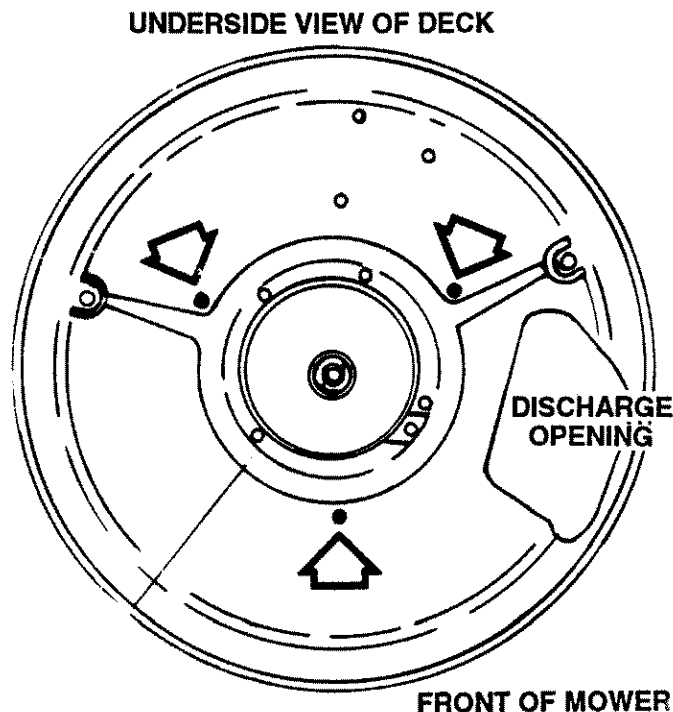

Fig. 1 - Screen Mounting Holes
- 1: Position the screen on underside and turn it until the three studs on the screen go through the matching holes in deck then secure with three split lockwashers and hex nuts on topside of deck. (See Figure 1).